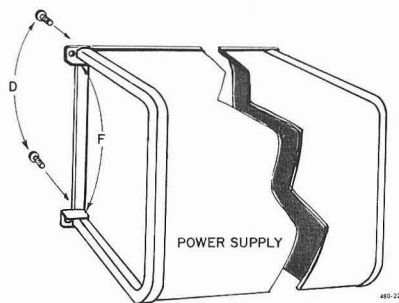
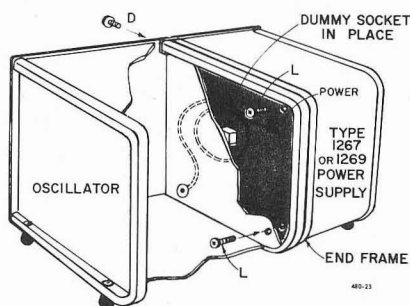

Figure 2-2. Installation of clip in place of washers.
Figure 2-3. Installation of oscillator with Type 1267 or 1269 Power Supply.
- k. Release the two end-frame attaching screws (D) at the right-hand edge of the power supply. (For Type 1263 installation, apply this step to the left-hand edge of the oscillator.)
- l. Withdraw the screws and remove the spacers (E) between the panel and the end frame.
- m. Install one clip (F) in place of each spacer on the power supply, with the plain surface of the clip against the inner surface of the end frame. Align one hole in each clip with the appropriate panel hole (Figure 2-2).
- n. Reinstall the panel screws (D) through the clips, into the end frames.
- p. Attach the 5-pin plug from the oscillator to the POWER jack on the supply. Figures 2-3 to 2-5 show the oscillator/power supply combination as finally assembled.
r. Lower the oscillator, so that the instruments slide together, with the exposed ends of the clips (F) in the supply entering the spacer slots behind the oscillator front panel.
s. Reinstall the front-panel screws (D) in the oscillator, through the clips, into the end frames.
t. Remove the cover of the oscillator from the rear and pass the 10-32 screws (L) (supplied) through the rear clearance holes (top and bottom) on the oscillator left-side panel (Figures 2-3 through 2-5).